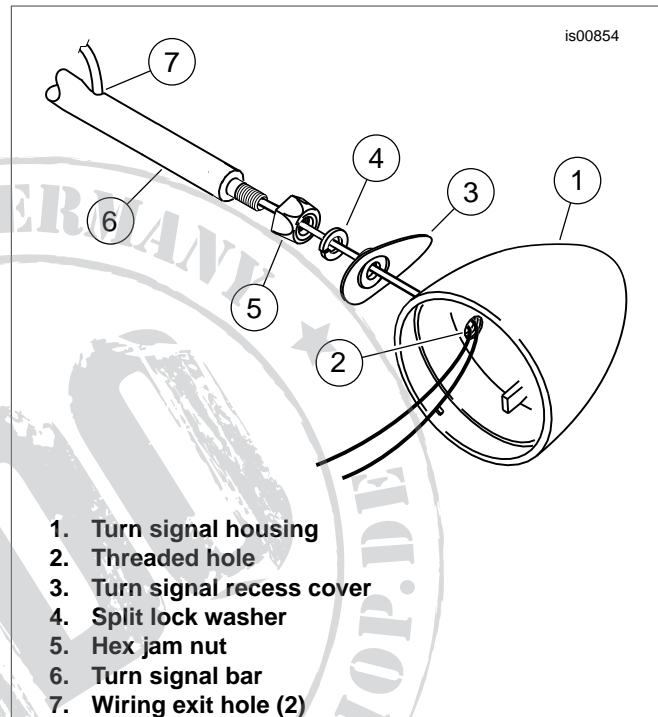

Figure 4. Rear Turn Signal Assembly to Bar
14. See Figure 4. Thread a jam nut (5) onto one end of the turn signal bar (6), and place a split lock washer (4) onto the threads at the same end of the bar.
- (see Figure 4) through the **threaded** hole (2) in the housing (1) from the inside.
- Position the recess cover (3) against the recess in the turn signal housing, with the wires coming through the hole.
- Insert the wires into the end of the turn signal bar (6) that has the jam nut and lock washer, and out through the oblong wire hole a short distance from the end of the bar.